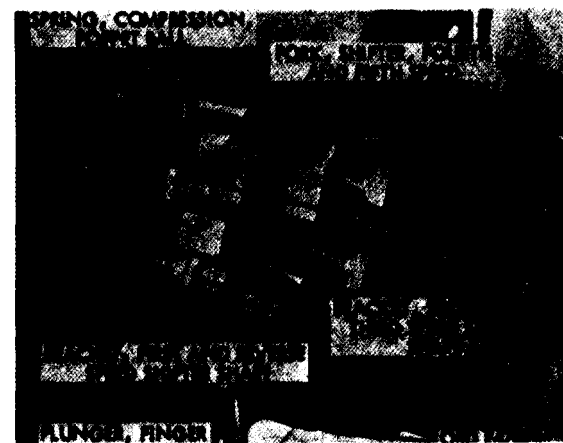
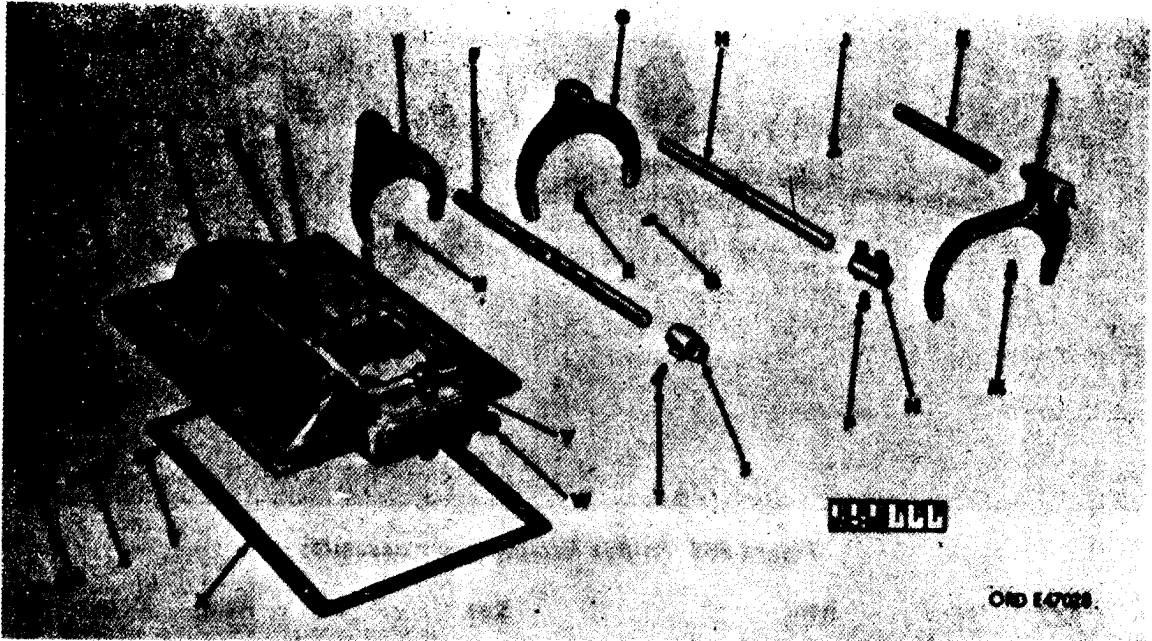

Figure 269. Removing poppet ball compression springs, balls, and finger plunger
Figure 272. Shifter housing assembly - exploded view
(a) Remove finger plunger (fig. 269) from shifter housing. Turn housing over
- (a) Place shifter housing (B) upside down on bench, with front end of cover to the right. Install first and reverse speed shifter shaft (F) in shifter housing (B), through the upper front shifter shaft hole. Slide shifter shaft through first and reverse speed shifter shaft bracket (S), and on through the shifter housing and add first and reverse speed shifter fork (E). Install shifter fork setscrews (T and U, fig. 269 and fig. 270) and secure with locking wires.
- (b) Install shifter shaft interlock (Q) in shifter housing (B).
- (c) Start second and third speed shifter shaft (H) in center hole in front of shifter housing (B). Add second and third speed shifter shaft bracket (N) and second and third speed shifter fork (G). Install setscrews (P and R, fig. 272) and lock with locking wire.
- (d) Install shifter shaft interlock (J) in shifter housing (B).
- (e) Start fourth and fifth speed shifter shaft (K) in front of shifter housing (B) and slide shaft through fourth and fifth speed shifter fork (L). Install setscrew (M, fig. 272) and secure in place with locking wire.
- (f) Install expansion plugs (W) into openings at front end of shifter housing (B). Tap plugs with a ball peen hammer to lock into place.